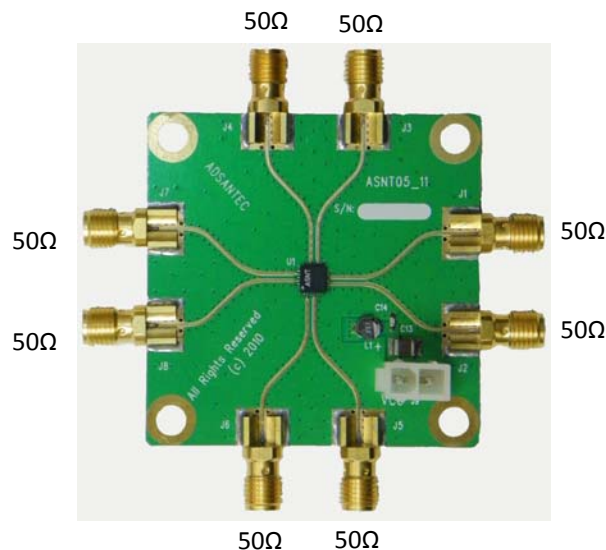

Fig. 5. Impedance of I/O Connectors
- Measure the resistance of all connector pins to VCC, including the power supply, while making sure the board is grounded. All I/O ports should measure 50Ohms while on the power supply connector, VCC should be a short and GND should be high impedance. Fig. 5 shows the resistance values of the described I/O connectors.